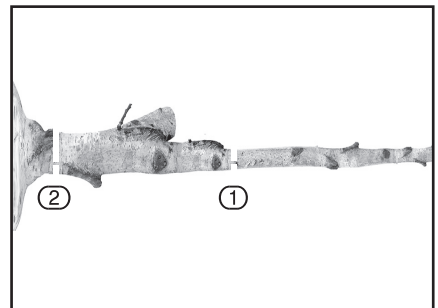

FIG. 20
11.2 WORKING TECHNIQUES - FIGS.20 - 21